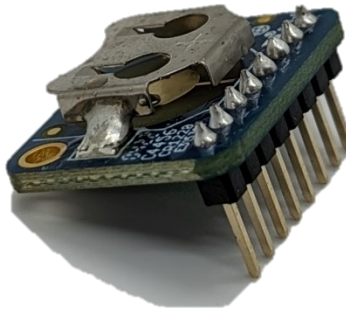

Figure 14. Real-Time Clock module with male headers soldered to the chip side of the board.
- a. The wires may be co-axial (one wire is wrapped around the insulated core of the other) in which case you will have to separate the shroud from the central core and expose both (see Figure 14 below). The shrouded wire will need to be twisted together once extracted from the insulation. Ensure that the insulation in the internal wire extends far enough that that wire will not contact the exposed external wire.